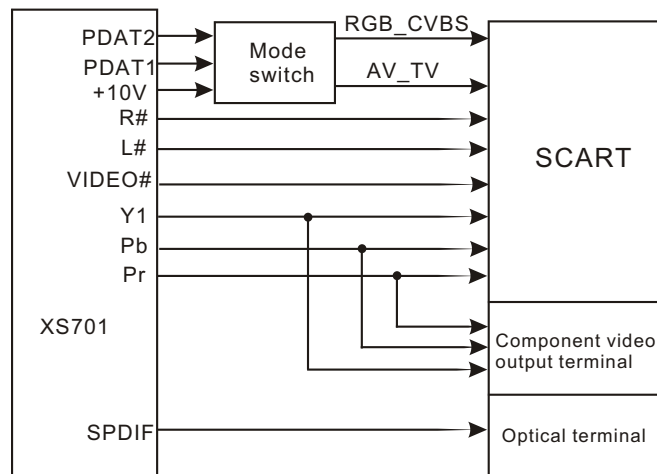

Figure 3.1.15.1 AV output board circuit block diagram
1. AV output board is mainly composed of SCART output terminal, ode switch circuit and filtering circuit. AV output board outputs different signals to connect with the relevant external devices. AV output board circuit block diagram is shown in the figure 3.1.15.1: